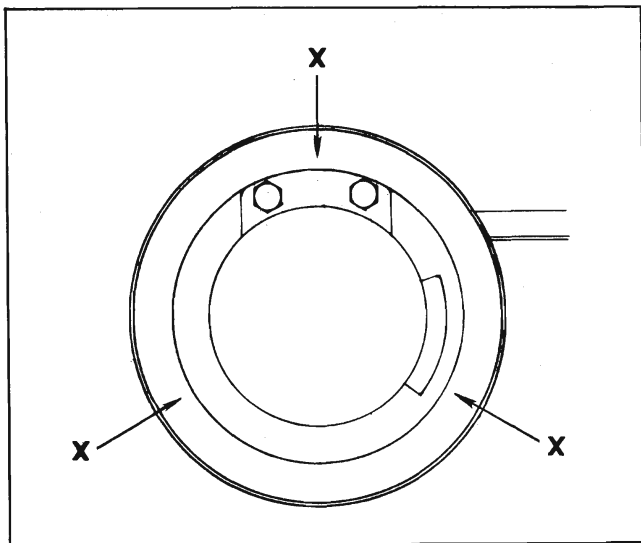

Fig. 11-122 Inner Ring of Aimer
3. Position T-3 Safety-Aimer on headlamp so that guide points engage smooth inner ring of aimer at points "X" shown in Fig. 11-122 and the cross arm on aimer points toward center of car.